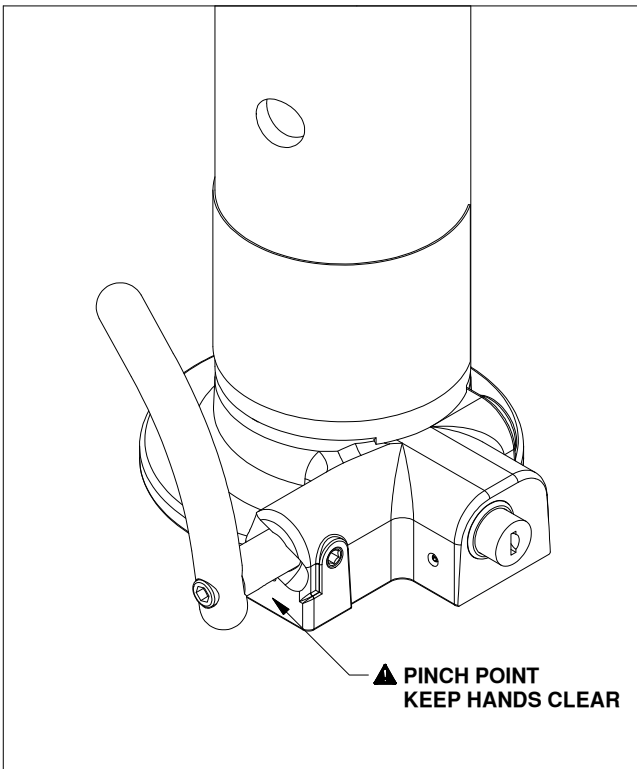
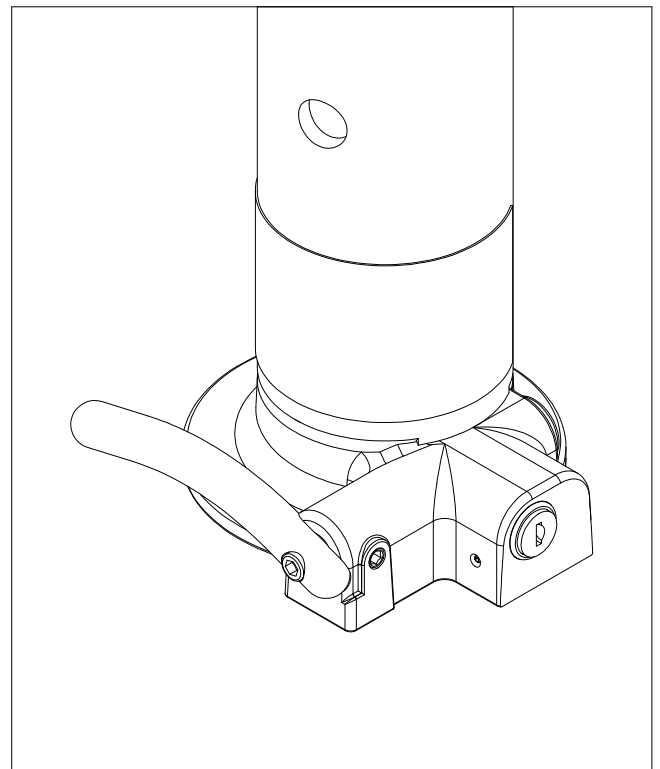

Figure B1, Coupler open position.
Figure B2, Coupler closed & locked position.
1. **Unlock coupler.** The coupler is locked when the face of the lock assembly is even with body of the coupler, see figure B2. To unlock, insert key and rotate 1/4 turn. When disengaged, the lock assembly will "pop" out so that the face of the lock assembly sticks out from the body of the coupler by about 1/2", see figure B1.
2. **Set coupler position.** Set the coupler to the "open" position. To do this, pull the handle straight out from the coupler about 1", rotate the handle clockwise until it stops, then release. The handle should stay in this near vertical position with about 1" between it and the coupler. See figure B1.
4. **Lower the trailer.** Slowly lower the trailer onto the ball. When the ball is fully engaged in the coupler, the handle will automatically rotate counter clockwise and retract firmly against the coupler housing. This is referred to as the "closed" position. See figure B2.
Set the coupler position. Set the coupler to the "open" position. To do this, pull the handle straight out from the coupler about 1", rotate the handle clockwise until it stops, then release. The handle should stay in this near vertical position, with about 1" between it and the coupler. See figure B1.